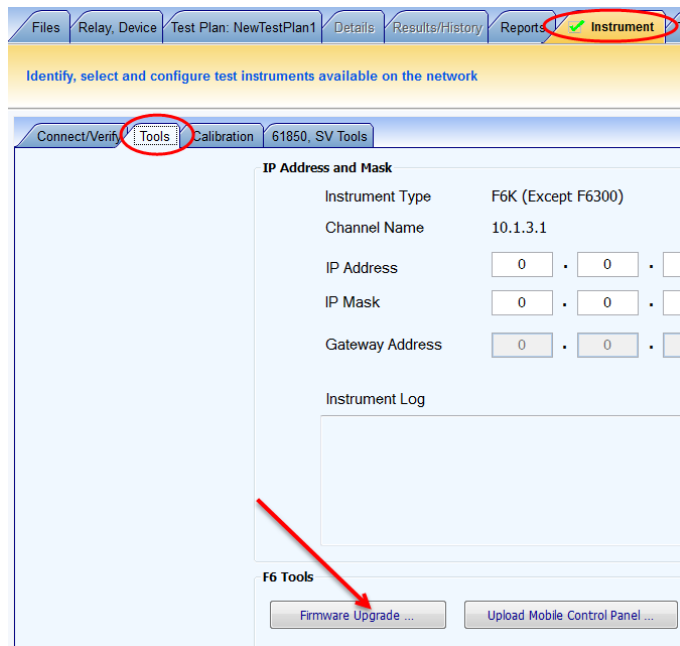

Figure 6. Location of “Firmware Upgrade” button
22) Choose Firmware Upgrade (in the F6 Tools section, shown in Figure 6)